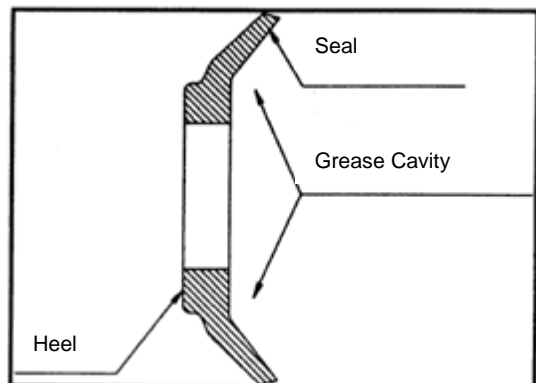

Figure 5:
2. Pack the grease cavity of the rubber seal with grease using a flexible putty knife. See Figure 5 for reference.